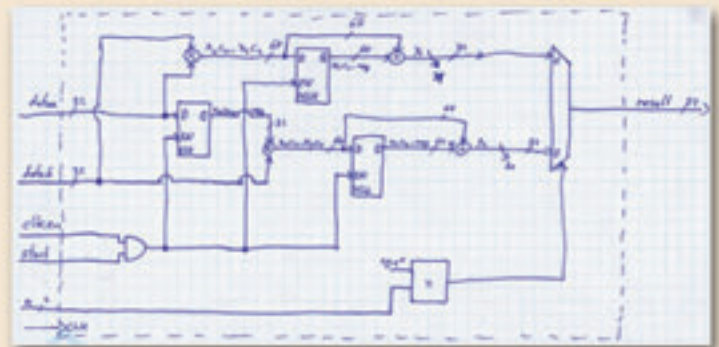

Figure 2 – Complex-number multiplication coprocessor was so easy to design, you can do it on graph paper.
*Figure 2 – Here's the prototype of the analog board. It seems that I always make my prototype area just a little too small for the circuit I'm designing. Just as in software, "I'm not quite done, I have to add just one more section..." thus the two boards tacked together. The yellow RCA connectors in the middle of the board are video-in. The video signal moves down the center of the board, through sync separator and Zetex amp, to the row of resistors that shift the 5-V TTL levels to 3.3 V for the FPGA. The small header at the top right corner connects this board to the Digilent board (not shown). The board on the left is the 3.58-MHz color trap and comparator. The long white wire going from the bottom right to the middle left is video.*
*Figure 2A – This is the completed PCB that my friend Steve laid out for the Digilent project. The connector on the left now plugs directly into the Digilent Nexys2 FPGA Demo board. Counterclockwise from there are the DB9 connector that drives the guitar, the optoisolator subassembly and the two video connectors—one for in and one for out. I'd say this board is a little cleaner than the prototype shown in Figure 2.*
Composite video in, comparator out at a single spot (see Figure 2). I used a National LM1881 sync separator and a Zetex ZXFV089 video amplifier with dc restore to generate the timing signals for the computing platform. Between these two parts, I generated horizontal and vertical sync and a referenced copy of the original video signal.